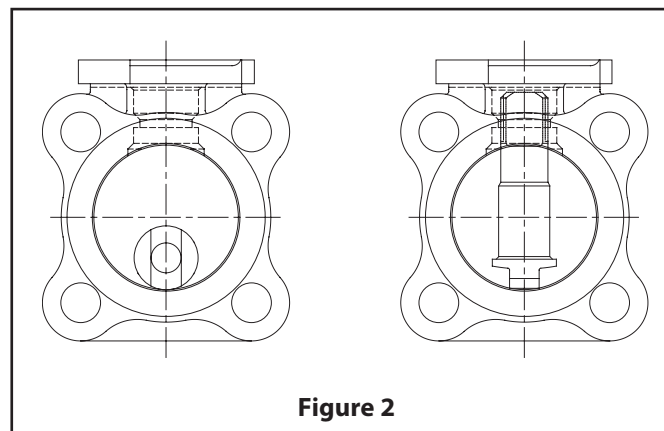

Figure 2
2. Insert the stem (4) horizontally into the body bore (threaded end first). The blade at the ball end of the stem must be vertical **(see Figure 2)**. Guide the stem into the stem bore being careful not to scratch the bearings.